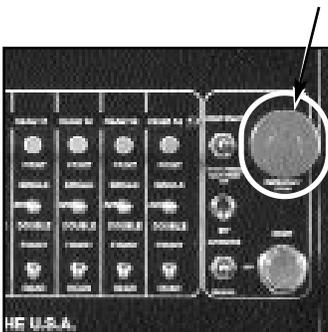

Fig. 8
- **Emergency Stop Push Button:** (Figure 8)